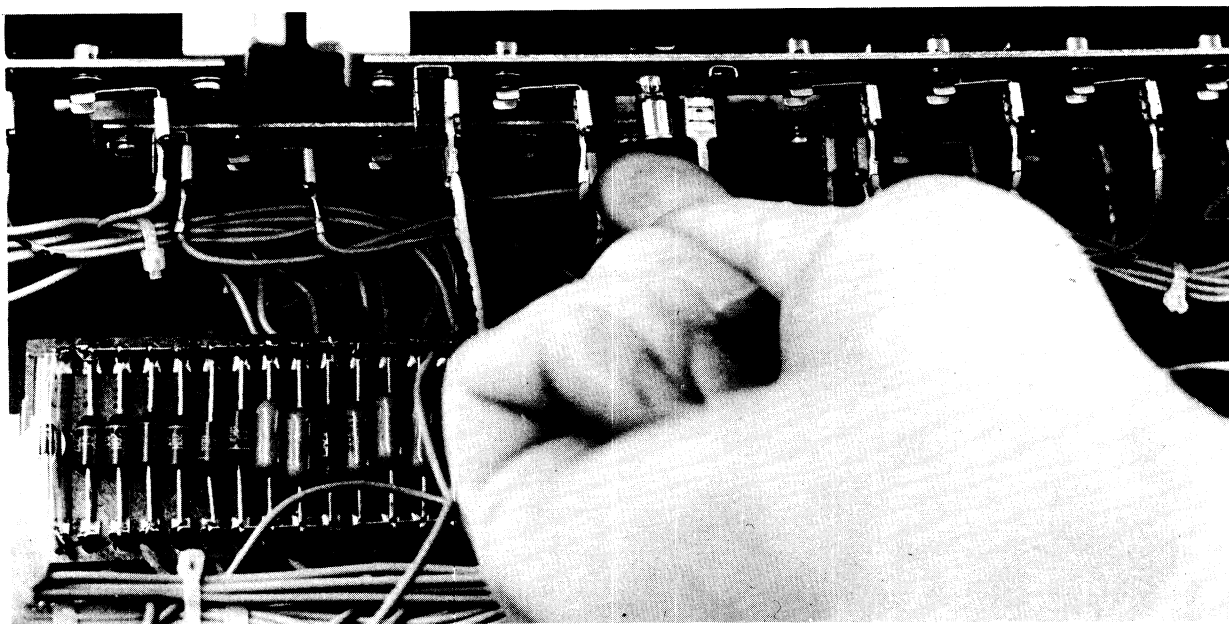

Figure 4-7. Removing Defective Bulb
3. Push bulb holder out of the way; bulb should drop out (Figure 4-7).